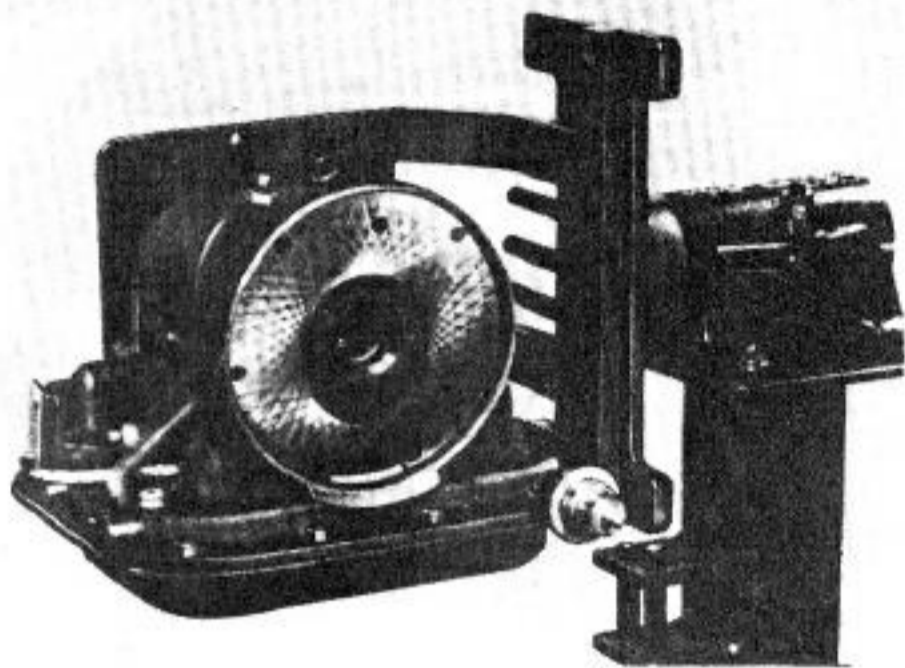

Fig. 10-3. Bearing flange for planetary gearset. Transmission case is held on a repair stand.
1. Hold the transmission in a stand, as shown in Fig. 10-3, or secure it to the workbench.